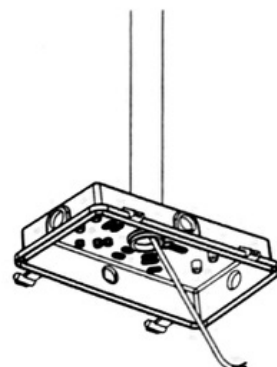

Figure 1-3
3. Fix the driver box cover on the 3/4 tube; Figure 1-3